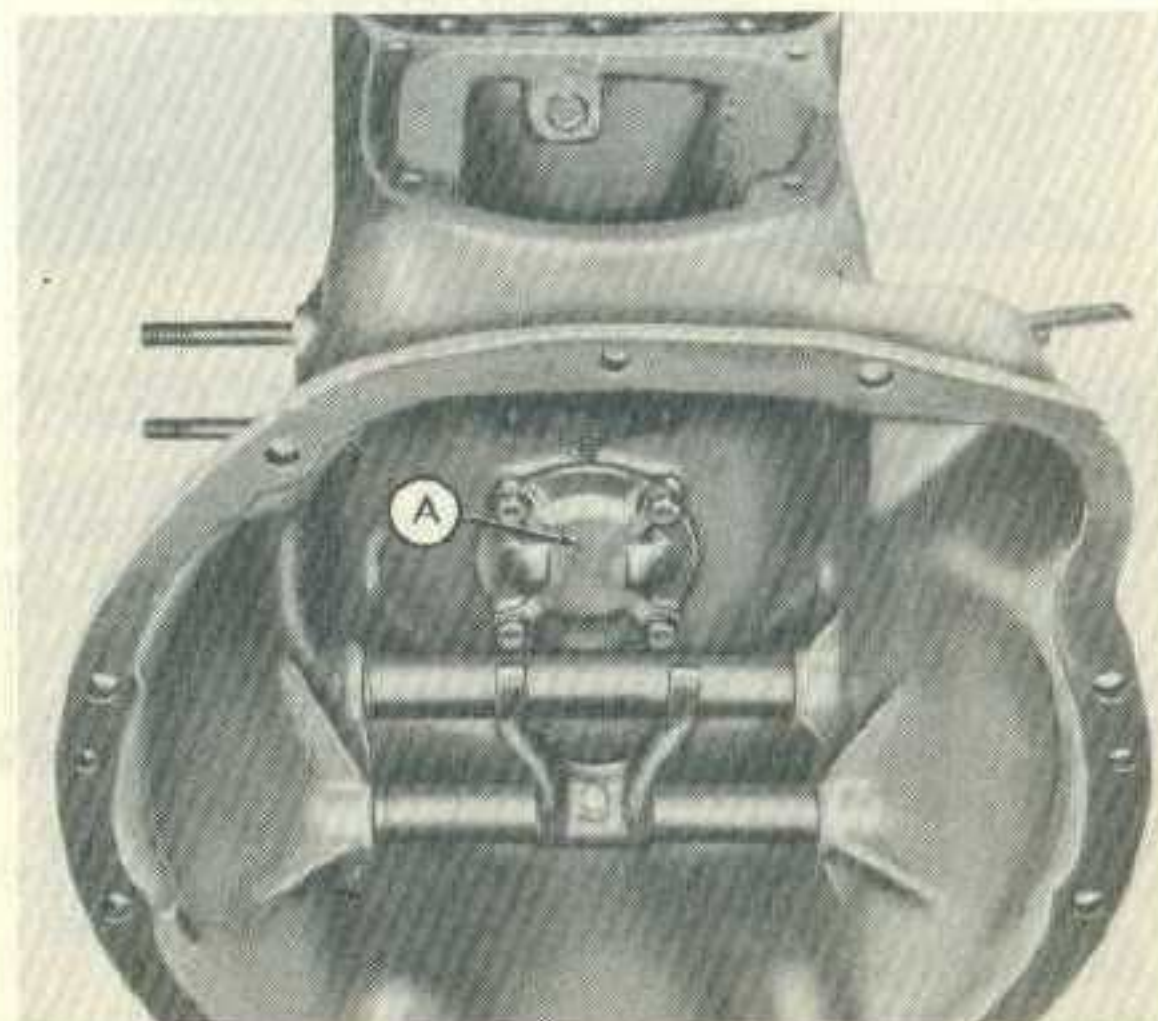

Fig. 6
Step 8—Remove the countershaft front bearing retainer (A-Figure 6).